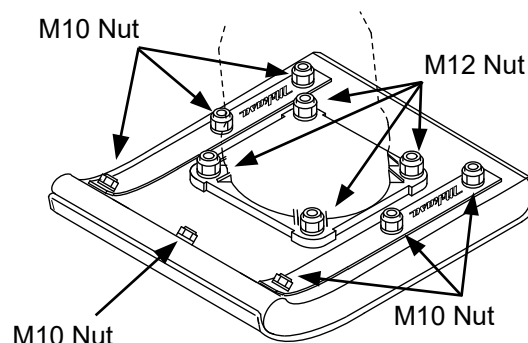

Figure 6. Location of Nuts to be Tightened
1. Retighten the nuts on the foot of the rammer (see Figure 6). Refer to Table 7 for proper tightening torque.